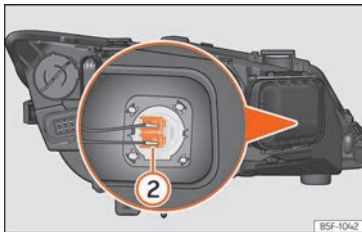

Fig. 60 Main beam headlight bulb.
- Slide connector »» Fig. 60 ② to the left or right and pull.